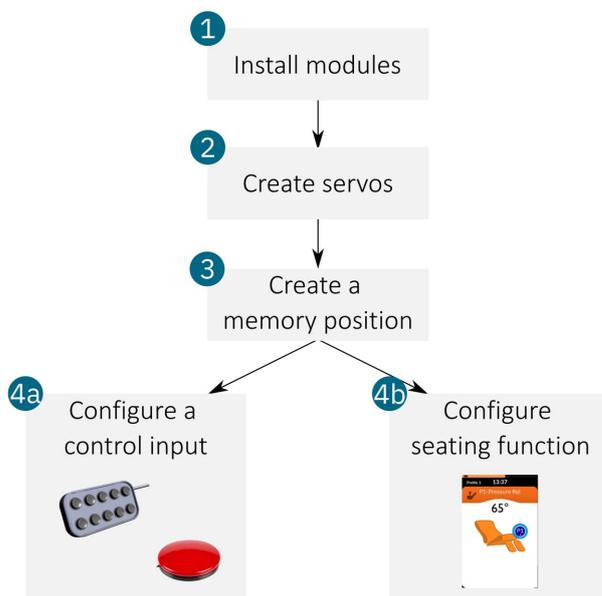

Figure 95: Setting up a memory position in four steps
Figure 95 shows the four steps to install and configure a LiNX system with memory positions. It starts with installing the necessary modules (1), creating the servos (2), and then creating a memory position (3).